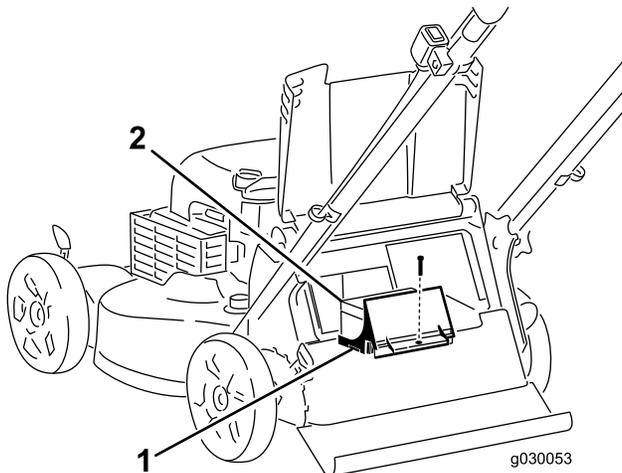

Figure 37
**Note:** Your machine comes with a spare fuse attached to the battery-charger box (Figure 37).